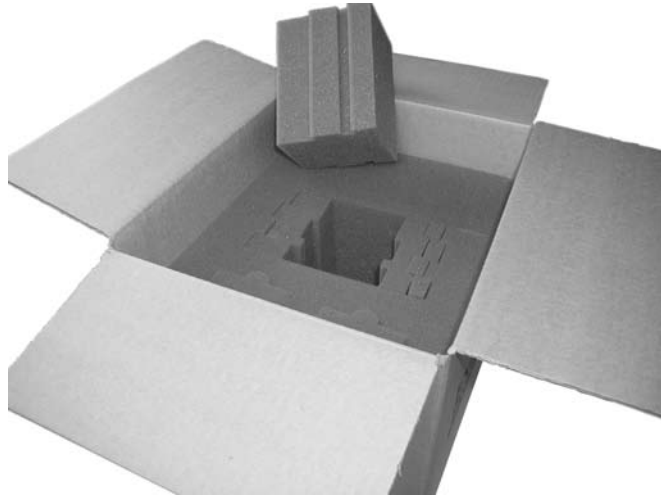

Figure B-3 — Removing center foam
5. **CC 300, 600, and 800 only** — Remove and discard the center foam section of the cushion in the carton (figure B-3). **If you are returning a Cable Cubby 300 model**, this is the correct fit. Proceed to step 8.